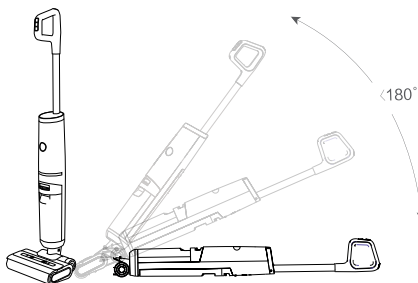
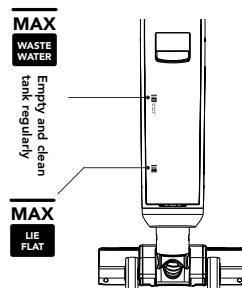

Fig 11
Fig 12
5. The Wet and Dry Vacuum can operate at both 95° upright and 180° lay-flat angles. It runs even when standing upright, and can lay completely flat for cleaning under low furniture (Fig 11). Ensure the Waste Water level does not exceed the lower MAX line marked for lay-flat use (Fig 12).